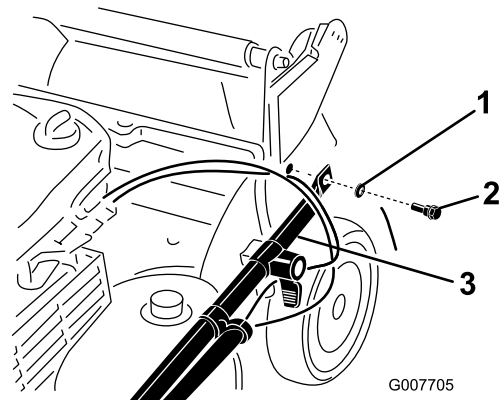

Figure 3
2. Attach the handle ends to the mower housing with 2 washers and 2 handle bolts (Figure 3), **but do not tighten the handle bolts**.